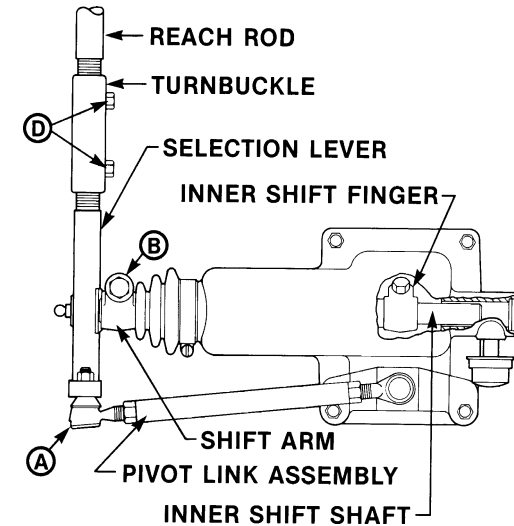

FIG. 1 — Parts of the LRC
3. Remove the cotter pin, castle nut and ball joint, (A) (fig. 1), from the selection lever. Do not remove the ball joint from the pivot link.
4. Loosen capscrew, (B) (fig. 1), and remove shift arm from inner shift shaft. Do not disconnect the selection lever from the shift arm.
7. Tighten capscrew, (B) (fig. 1).
13. Loosen both capscrews on turnbuckle, (D) (fig. 1).
16. Tighten **one** turnbuckle capscrew, (D) (fig. 1).
18. Tighten second turnbuckle capscrew, (D) (fig. 1).